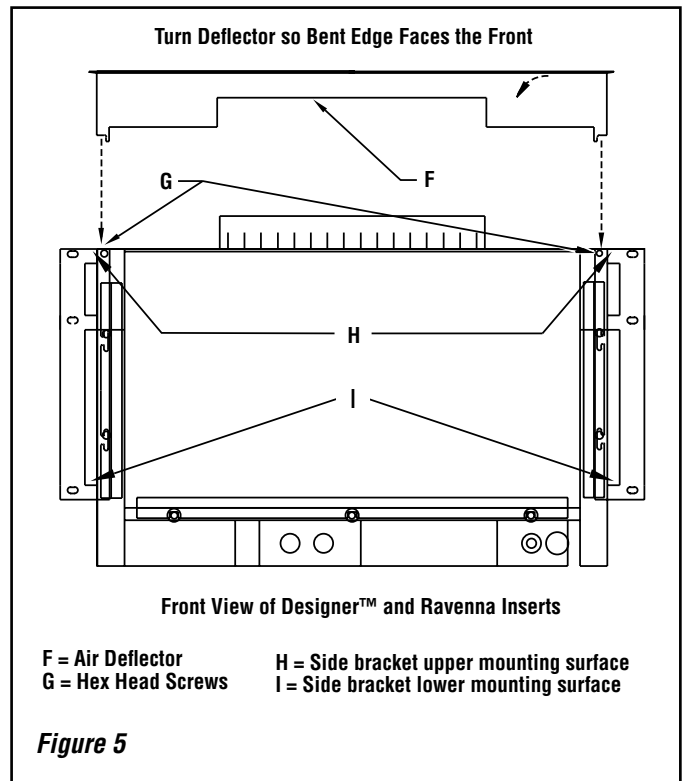

Figure 5
- b) The brackets should be positioned with the hooks pointing down and the holes located toward the center of the backing plate (see **Figure 5**). Secure each bracket with three 5/32" allen head screws in the three holes in the backing plate as shown in **Figure 6**.
Packaged with the stove is an air deflector (see F in **Figure 5**). Prior to installing the surround panels and pillar face, the air deflector should be installed by loosening the two 5/32" hex head screws (see G in **Figure 5**), positioning the deflector so the tabs are down and the bent edge is facing the front of the insert, sliding the tabs on the deflector behind the surround brackets, and then retightening the screws.
The mounting brackets just installed on the backing plate have two hooks on them. To install the backing plate on the Designer and Ravenna inserts, lift the backing plate and place the hooks on the brackets over surfaces H and I (see **Figure 5**) on the side surround brackets.